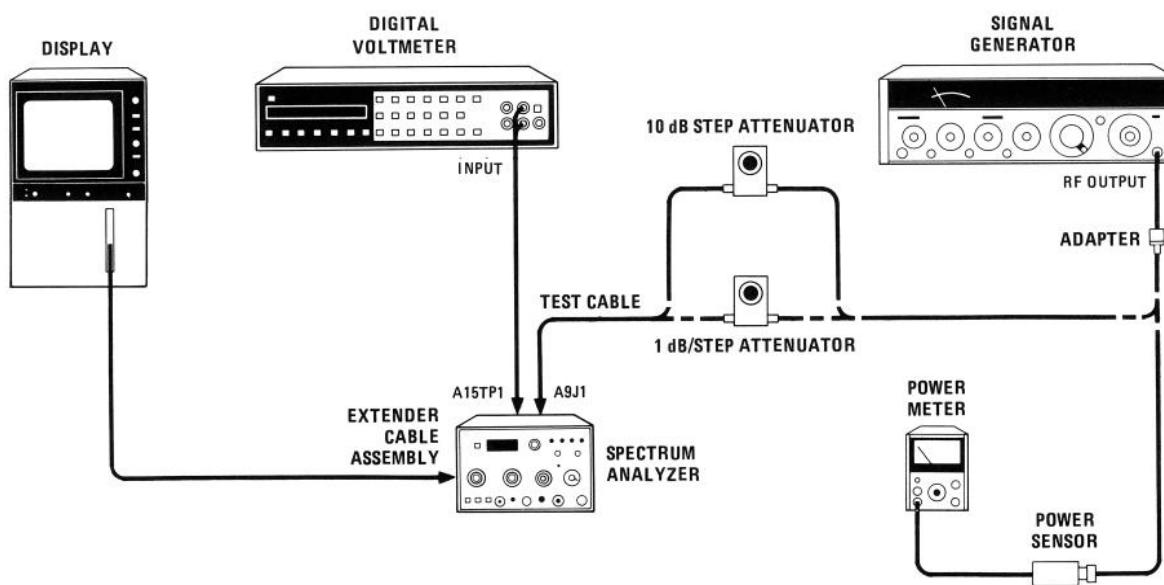

FIGURE 5-11. STEP AMPLIFIER GAIN ADJUSTMENT TEST SETUP
- Connect equipment as shown in Figure 5-11. Connect signal generator tuned to 301.4 MHz with approximately -13 dBm output to one side of a 1 dB/step attenuator. Connect attenuator output to A9J1 through test cable. Tune signal generator frequency for peak amplitude on display.